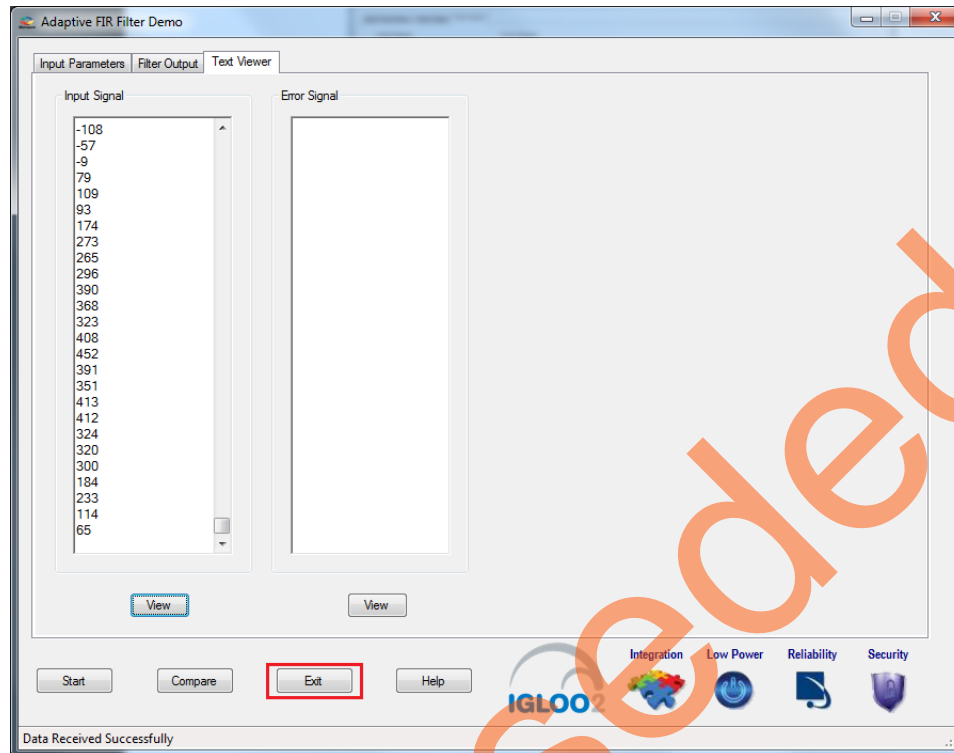

Figure 28 • Exit Demo
12. Click **Exit** to stop the demo, refer to Figure 28.